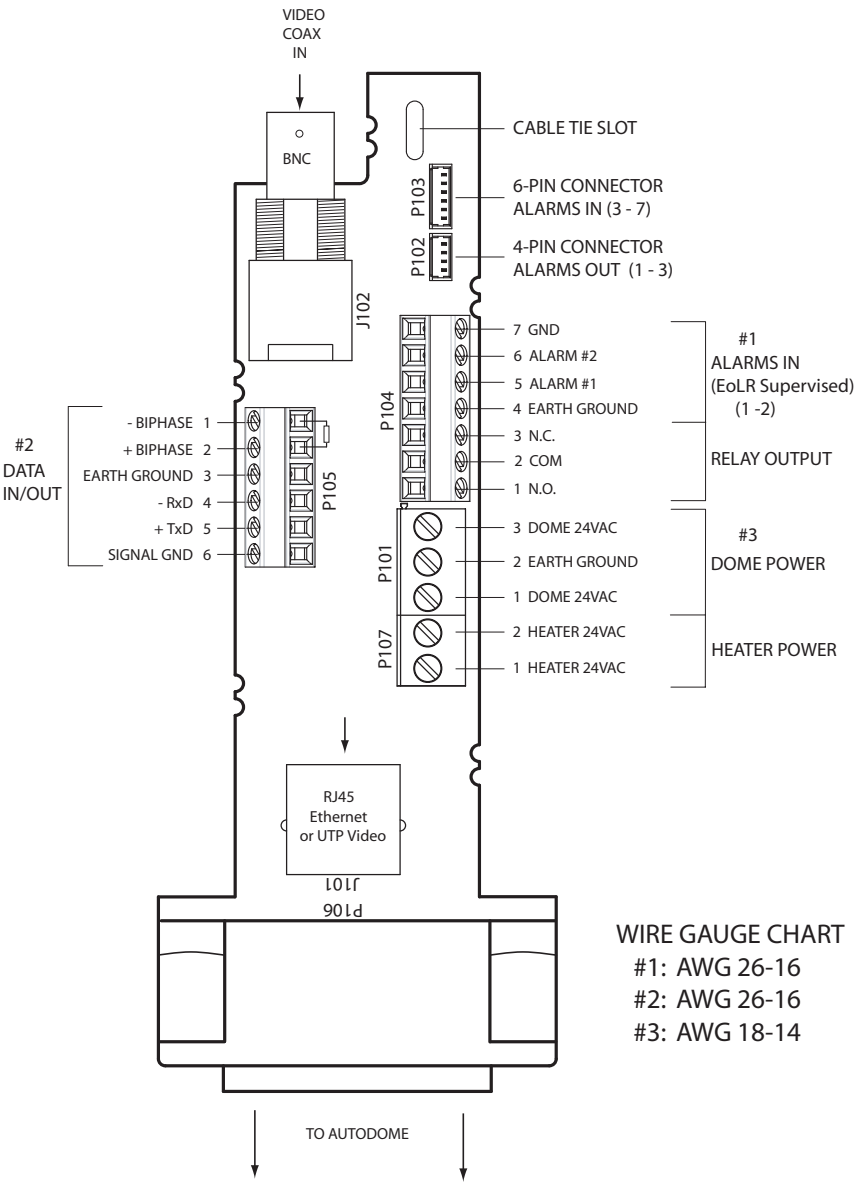

Fig. 2.12 Pipe Interface Board Connections
2. Attach the control data in/out wires to their respective terminals on the P105 connector on the Interface Board. See *Figure 2.12* on page 31 for an illustration of these connections.